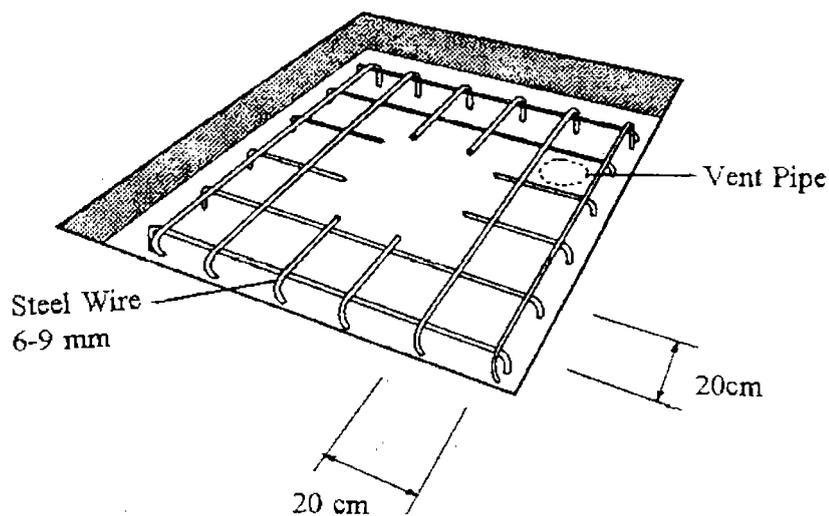

Figure 7. Laying the grid in the pit
- Put the grid in the pit. Bend the ends of the wires, or put a small stone at each corner, so that the grid stands about 2-3 millimetres off the bottom of the pit (see Figure 7).